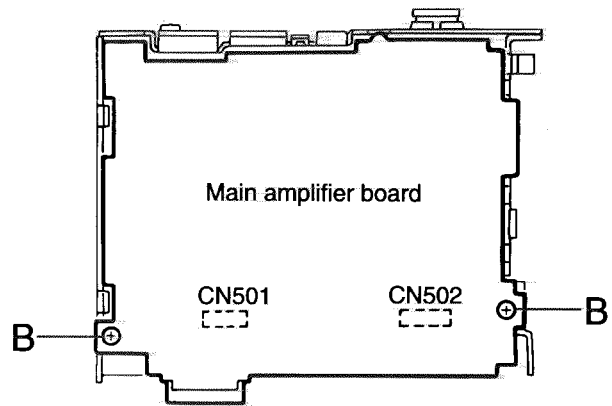

Fig.5
■ **Removing the main amplifier board assembly (See Fig.5 and 6)**